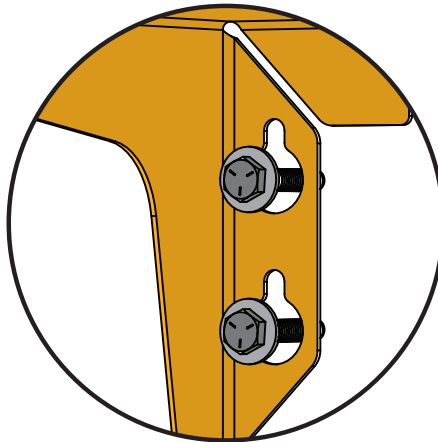

FIG. 5
Lift the Wall Bracket (F) up and over the fasteners so that the washer is on the inside of the bracket [FIG. 5].